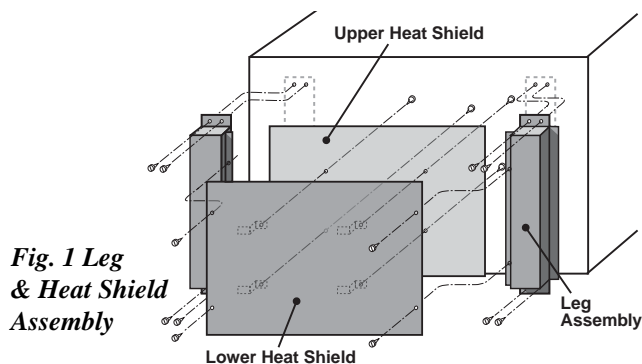

Fig. 1 Leg & Heat Shield Assembly
4. Join the upper and lower heat shields with four (4) self-tapping screws (fig. 1).
6. Attach leg/heat shield assembly to the base of the stove using eight (8) self-tapping screws (fig. 1).